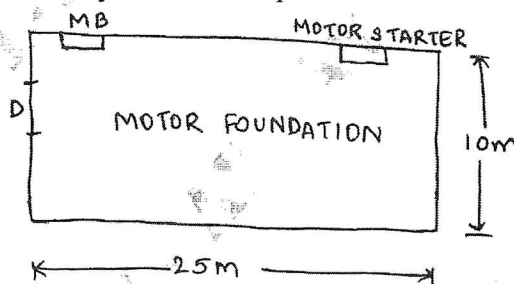

Fig Q6(b)
b. A 10HP, 415V, 3 ϕ , 50Hz, Induction motor is to be installed in a workshop the plan of which is shown in Fig Q6(b). Draw the layout of the wiring and estimate the quantity of material required. Assume motor efficiency as 85% and power factor as 0.8 lagging.